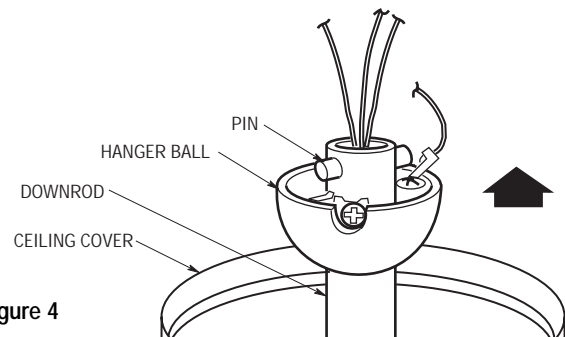

Figure 4
9. Position the ceiling cover over the downrod. Be sure the cover is oriented correctly, with the large opening at the top (Figure 4).
10. Reinstall the hanger ball on the downrod as follows. Route the motor leads through the hanger ball and slide the hanger ball over the downrod (Figure 4). Install the pin through the holes at the top of the downrod and slide the hanger ball up the downrod, aligning the ball so the pin is captured in the groove in the top of the hanger ball. Pull the hanger ball up tight against the pin and securely tighten the setscrew in the hanger ball. A loose setscrew could create fan wobble.